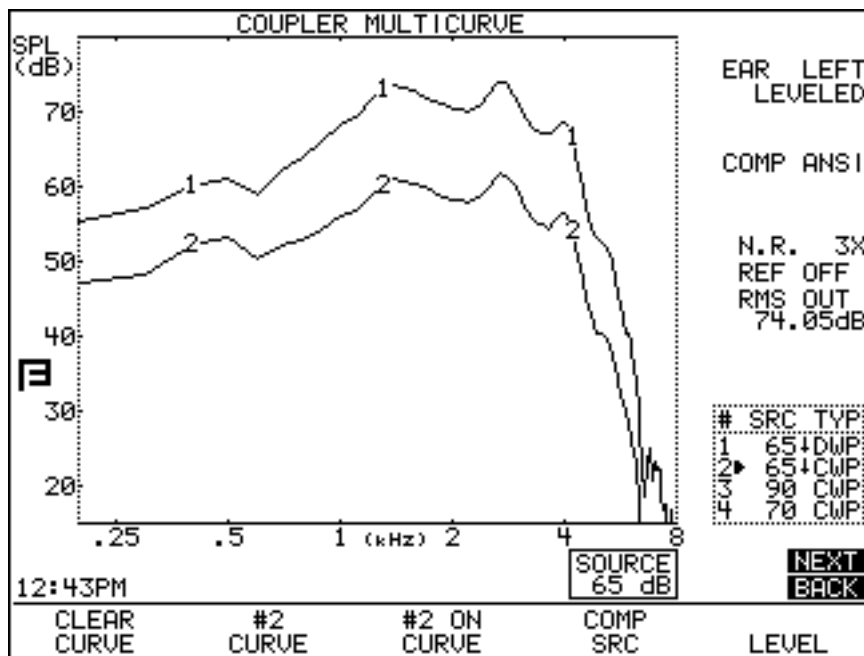

Figure 2.2.3—Digital speech curve comparison
6. Compare CRV 1, made with Digital Speech, to CRV 2, made with the Composite signal. If the aid has noise suppression, CRV 2 should show less amplification than CRV 1. See Figure 2.2.3